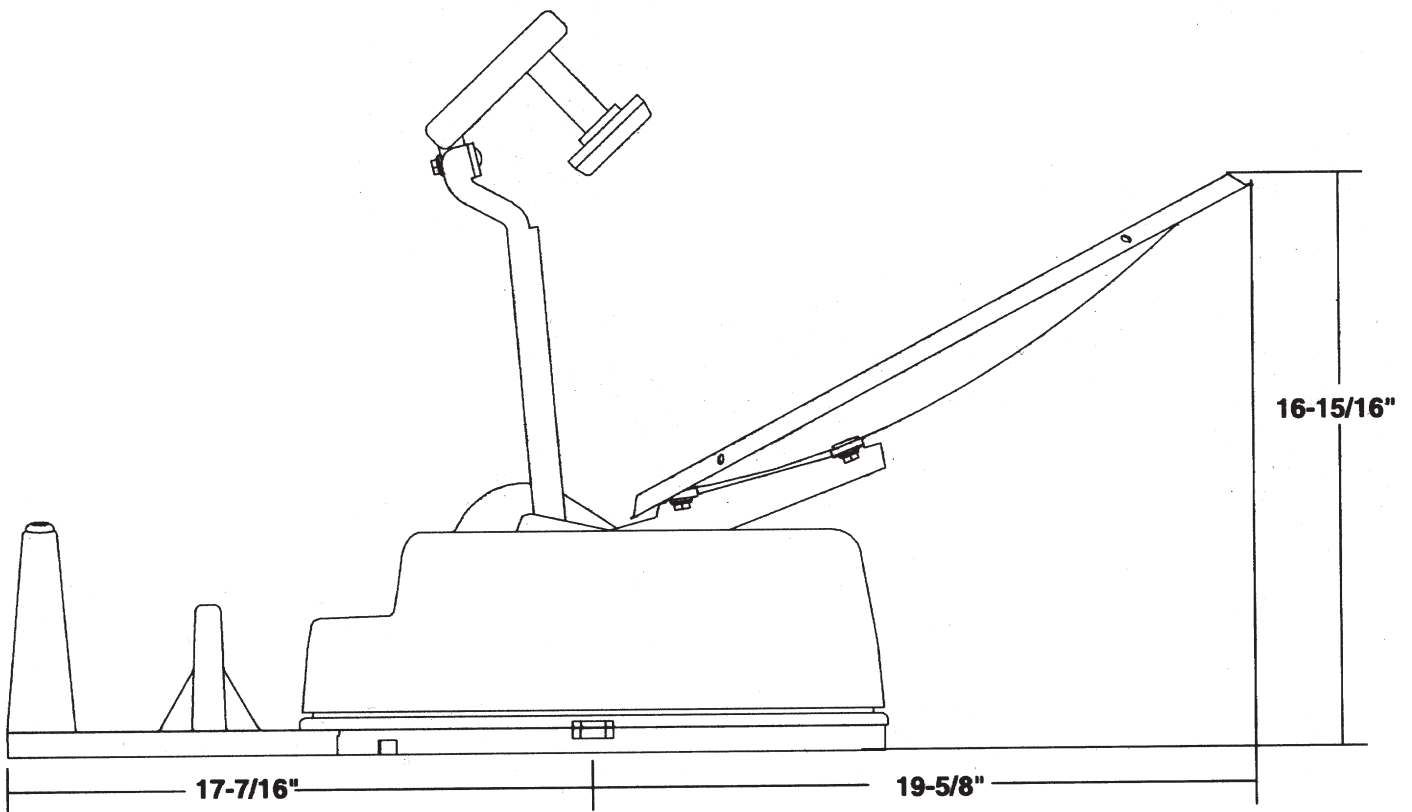

Figure 1
- A. An area on the RV/coach large enough to allow free movement of the antenna/mount. See Figures 1, 2 and 3 for mount/antenna clearance. **If you do not have an area large enough, you can build up the mount so that it will clear ALL obstructions.**
2. After determining how you want to run the control cable, you are ready to attach the mount base to the roof. Make sure the location you choose has adequate clearances; review Figures 1, 2 and 3. Figure 4 shows bolt hole pattern.